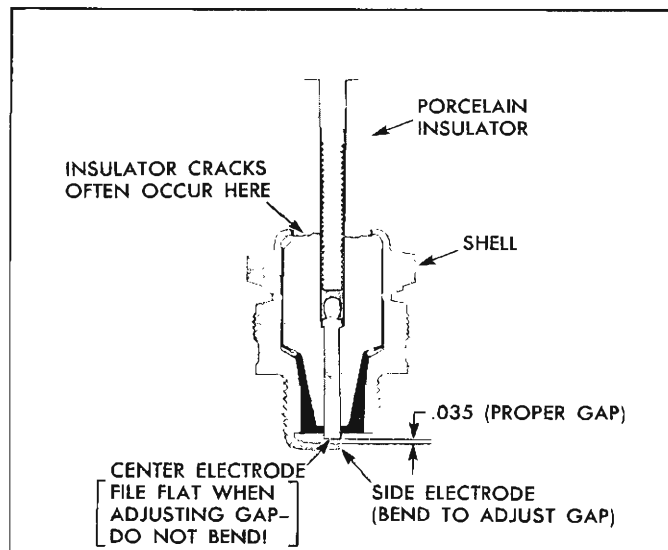

Fig. 3—Spark Plug Detail
- Inspect each plug individually for badly worn electrodes, glazed, broken or blistered porcelains and replace plugs where necessary (fig. 3). Refer to spark plug diagnosis information presented in "Engine Electrical," Section 6Y for an analysis of plug conditions.